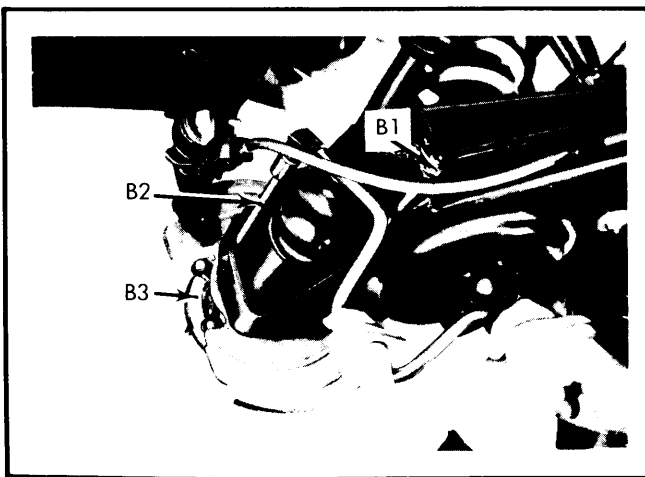

Fig. 1 Forcing Out Front Axle Assembly
4) To remove axle, complete with hub and bearing support, work from rear (See Fig. 1) and use two bolts and plate (special tools B1, B2 and B3 of tool set 8.0521). With plate installed between hub and bearing support, insert the two bolts, as illustrated, and alternately tighten both bolts until axle assembly is pressed free of lower control arm.